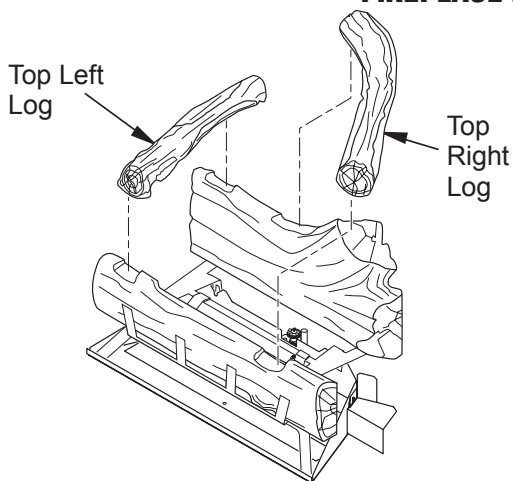

Figure 23 - Installing Top Left and Right Logs
3. Place top right log into notches on left side of front and rear (see Figure 23, page 15).
4. Place top left log into notches on right side of front and rear (see Figure 23, page 15).